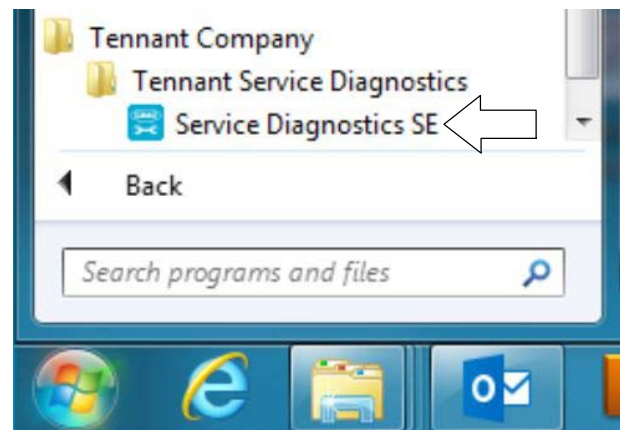

Fig. 15
The service application software is titled “**Service Diagnostics SE**”. (Figure 15).
7. After the application software is installed on your computer, refer to figure 15 to access the program.